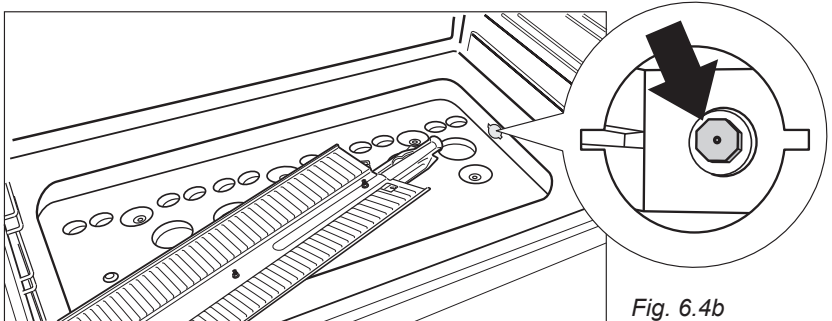

Fig. 6.4b
- Withdraw the burner as shown in figure 6.4b.
- Using a 7 mm box spanner, unscrew the injector (indicated by the arrow in fig. 6.4b) and replace it with a new one selected in accordance with the “Table for the choice of the injectors”.
To regulate the air supply it is necessary to remove the burners from the cavity (figs. 6.4b - 6.5b).